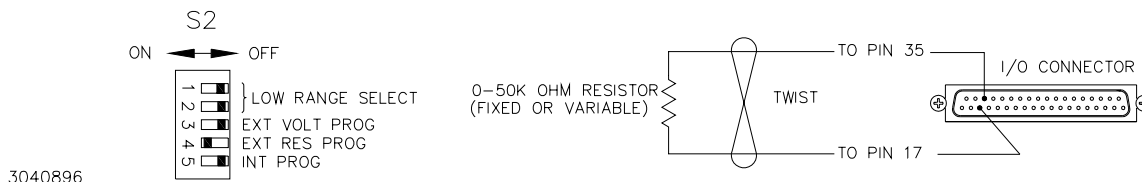

FIGURE 3-1. EXTERNAL RESISTANCE PROGRAMMING OF OUTPUT VOLTAGE
- b) **External Resistance Programming:** When enabled via S2-4, this mode provides for output voltage adjustment via an external resistance or potentiometer (0-50Kohm) connected between pins 17 and 35 (VRP1, VRP2) of the I/O connector (see Figure 3-1). This technique is useful for applications where the voltage output of the power supply must be locked to a preset value without means of adjustment (security), or where the voltage output of the power supply must be remotely adjusted after installation (convenience).